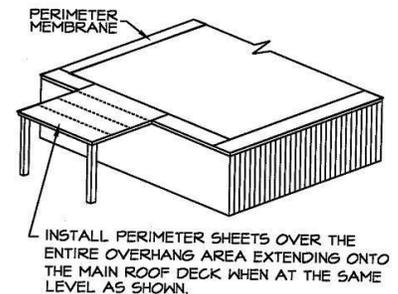

Figure 2
2. **Buildings with overhangs (Figure 2)** – The membrane must be specified with perimeter sheets installed over the entire overhang area extending onto the main roof deck when at the same level. As an option, an adhered membrane section may be used in lieu of the mechanically fastened membrane at building overhangs in accordance with the Mule-Hide Fully Adhered TPO Roof System Specification. See Detail MHT-MA-103B.